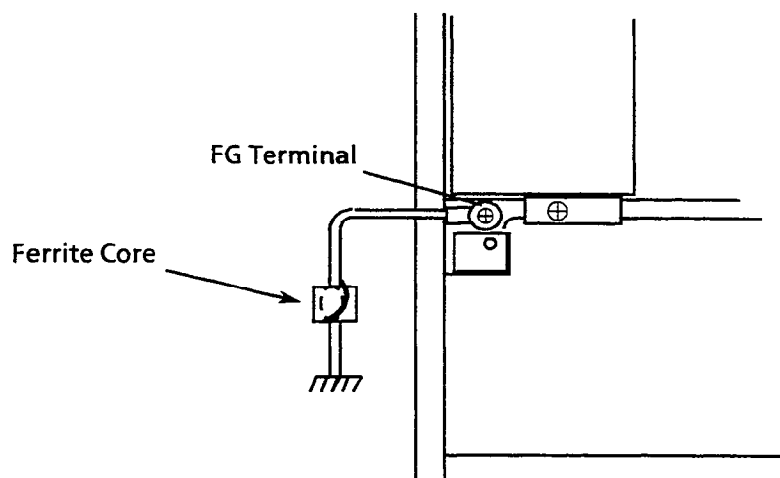

Figure 2-21 KSU Grounding
4. A grounding terminal is provided on the ESF-H-10 KSU. Connect the grounding conductor to the hexagonal screw with the green colored head terminal. Refer to Figure 2-21 - KSU Grounding.